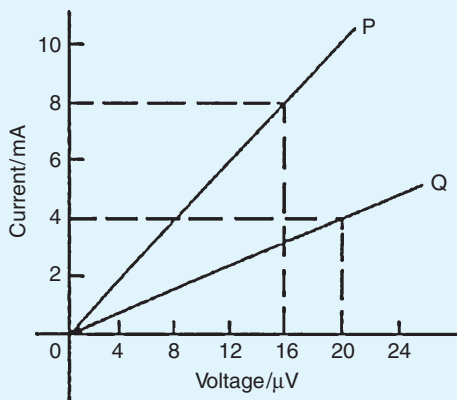

Figure 2.9
- Graphs of current against voltage for two resistors P and Q are shown in Fig. 2.9. Determine the value of each resistor.